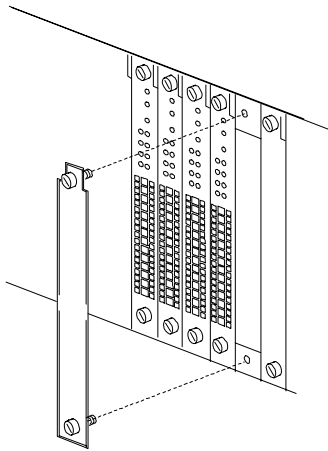

Figure 2-9. Installing Filler Panels
2. Position one filler panel in front of the slot opening you wish to cover. Cutouts in the top and bottom of the panel should align with threaded holes in the front and rear of the chassis. See Figure 2-9.